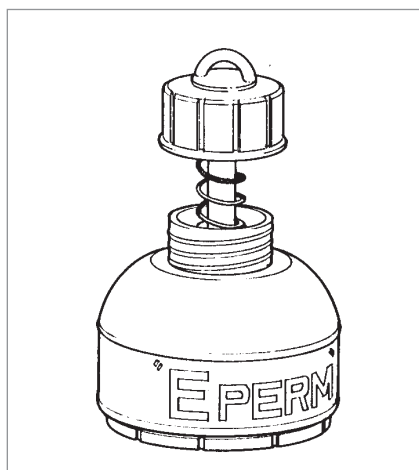

Figure 7: Electret Ion Chamber
- **Electret Ion Chamber** – This method uses a special plastic canister that contains a disk called an “electret” with an electrostatic charge (*see figure 7*). It is exposed and the change in the electret’s charge read to determine the radon level. There are two versions, one for short-term tests of a few days or weeks, and one for long-term tests of several weeks or months. Electret ion chambers may be read in the home using a special analysis device or mailed to a lab for analysis.